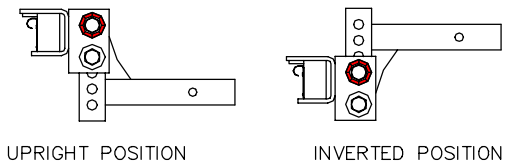

FIGURE 6
1. Insert shank (1) into receiver and install pin (5A) and clip (5B) [See figure 3]. Shank (1) may be inserted in the upright or inverted position depending on uncoupled ball height [See figure 6].
2. Select hitch ball to match trailer coupler socket, having 1" or 1 - 1/4" threaded shank and capacity equal to or exceeding the gross trailer weight. Attach the ball to the head assembly (2) **using a lockwasher** and nut. See ball instructions for proper torque specification.